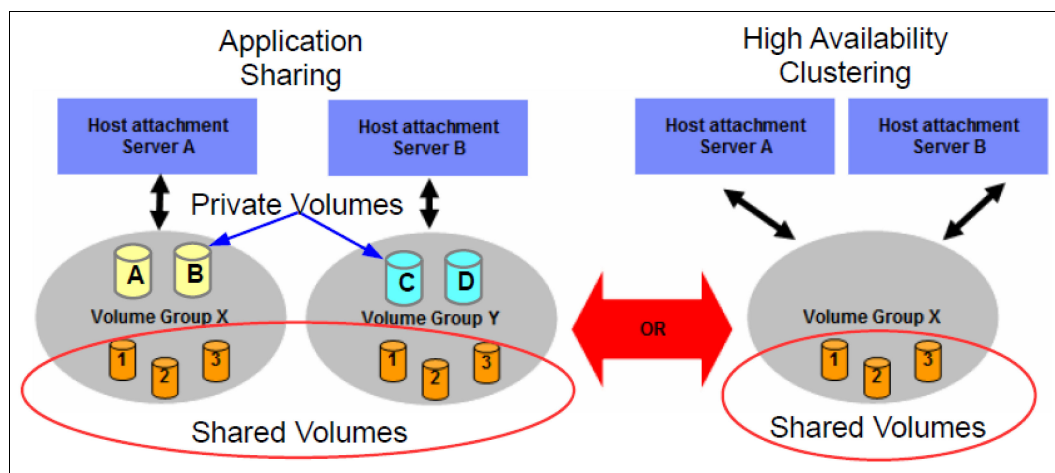

Figure 10-1 LUN configuration for shared access
- ▶ Assign multiple ranks to extent pools to take advantage of storage pool striping. Additionally, assign ranks from multiple device adapter (DA) pairs to an extent pool to spread the workload and increase performance. See 6.5.2, “Data placement in the DS8000” on page 180.
- ▶ The following options are available for fixed-block (FB) pools:
- If LUN sharing is required, the following options are available (Figure 10-1):